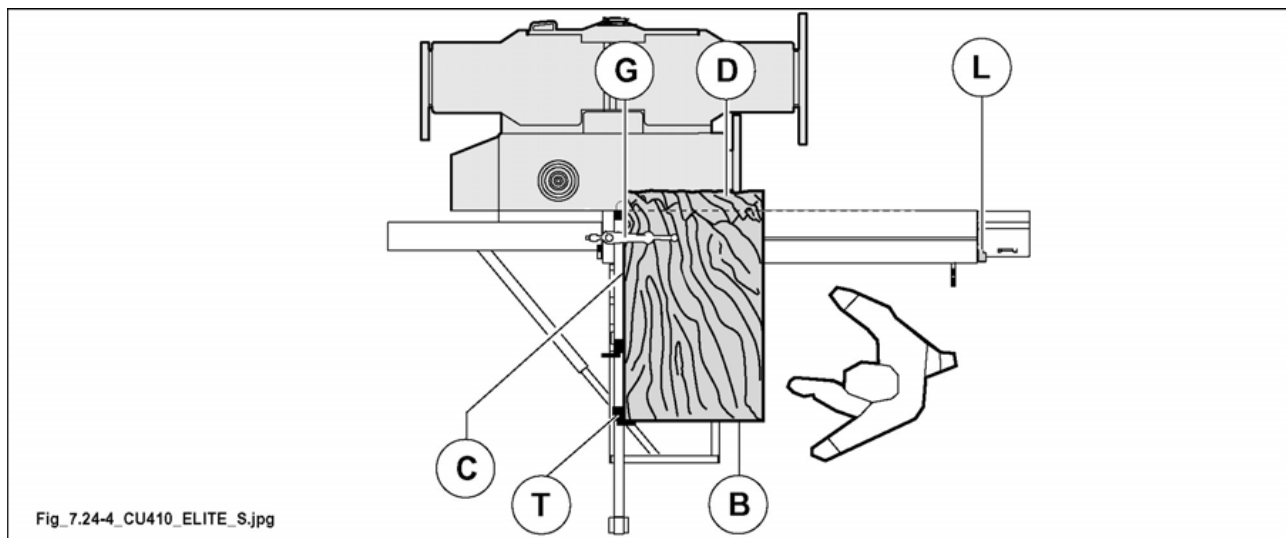

Fig. 7.24-4
- Move the sliding table to the end of stroke (see fig. 7.24-4), lock lever (L fig. 7.24-4).
- Turn panel 90° again. Rest side (C fig. 7.24-4) against aluminium rule and side (B fig. 7.24-4) to stop (T fig. 7.24-4) set to the cutting measure required; lock the panel with clamping device (G fig. 7.24-4) then carry out cut (D fig. 7.24-4).